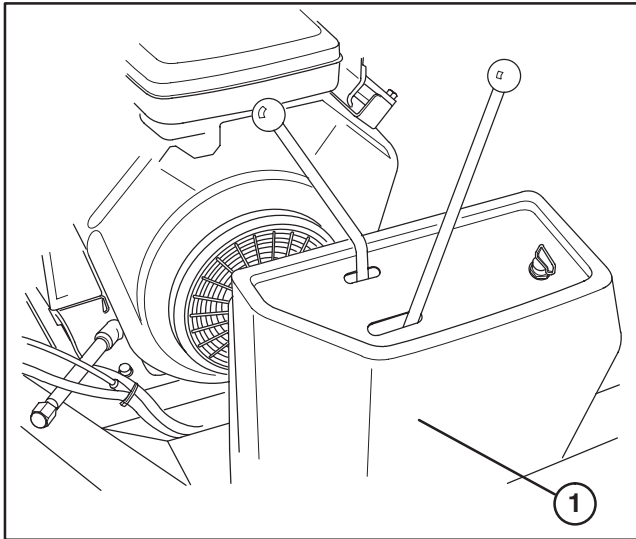

Figure 31
- A. Remove control cover to expose adjusting screws (Fig. 31).